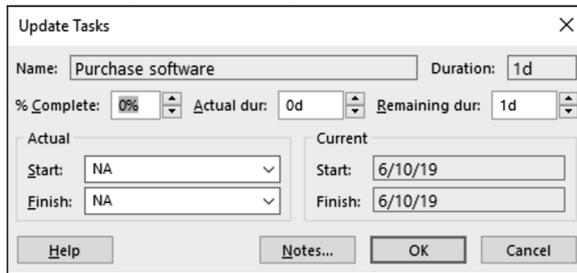

FIGURE 15-2:
- » **Update Tasks:** To display a dialog box that contains tracking information about the progress, duration, start, and finish dates, find this tool on the menu that opens when you click the down arrow on the Mark on Track button. For example, you can indicate whether a task's actual start date varied from its current start date. Figure 15-2 shows the Update Tasks dialog box.
- » **Use the Update Tasks dialog box.** To open it (refer to Figure 15-2), click the Mark on Track button in the Schedule group on the Task tab.